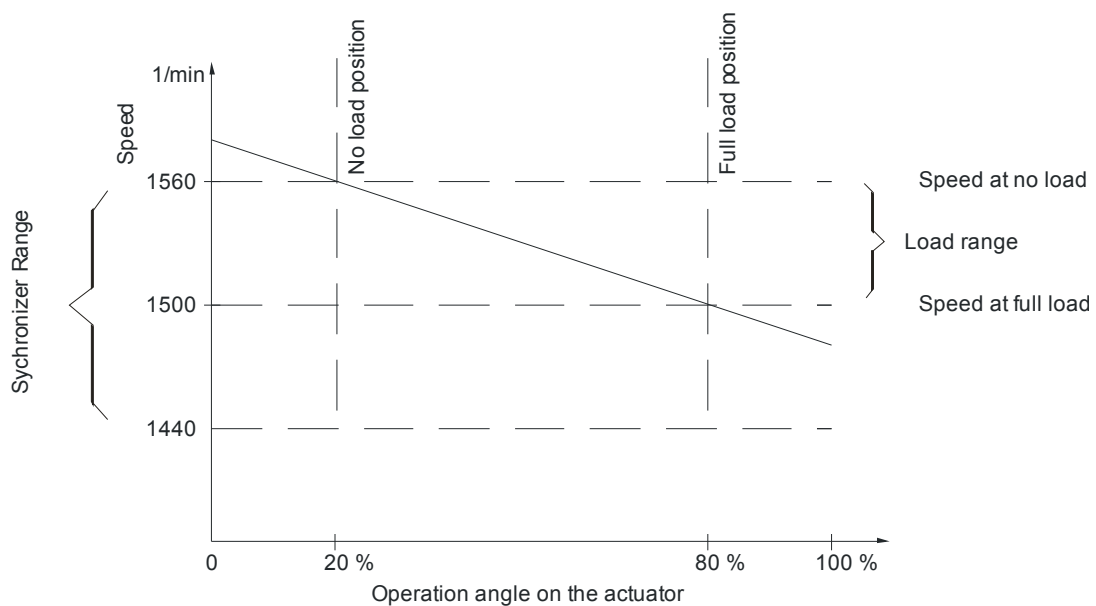

Figure 26: Droop curve at 4% and 1500 rpm
4. Turn Droop potentiometer 60 to 70% clockwise (results about 4% Droop, depending on the used actuator travel, see Figure 26)
4. Turn Droop potentiometer 60 to 70% clockwise (results about 4% Droop, depending on the used actuator travel, see **Figure 26**)